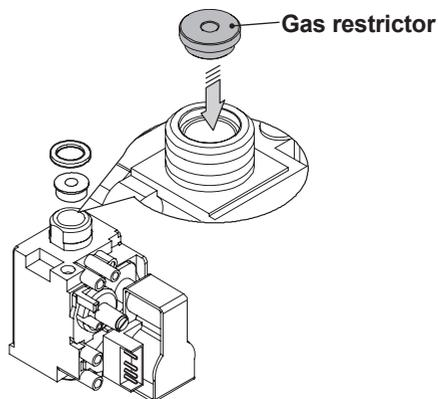

Fig. 8.2
- Carry out gas conversion by correctly replacing the gas restrictor (Fig. 8.2), referring to the "Technical Data" section page 26 (Advance Plus 25C), page 29 (Advance Plus 30C) and page 32 (Advance Plus 35C).